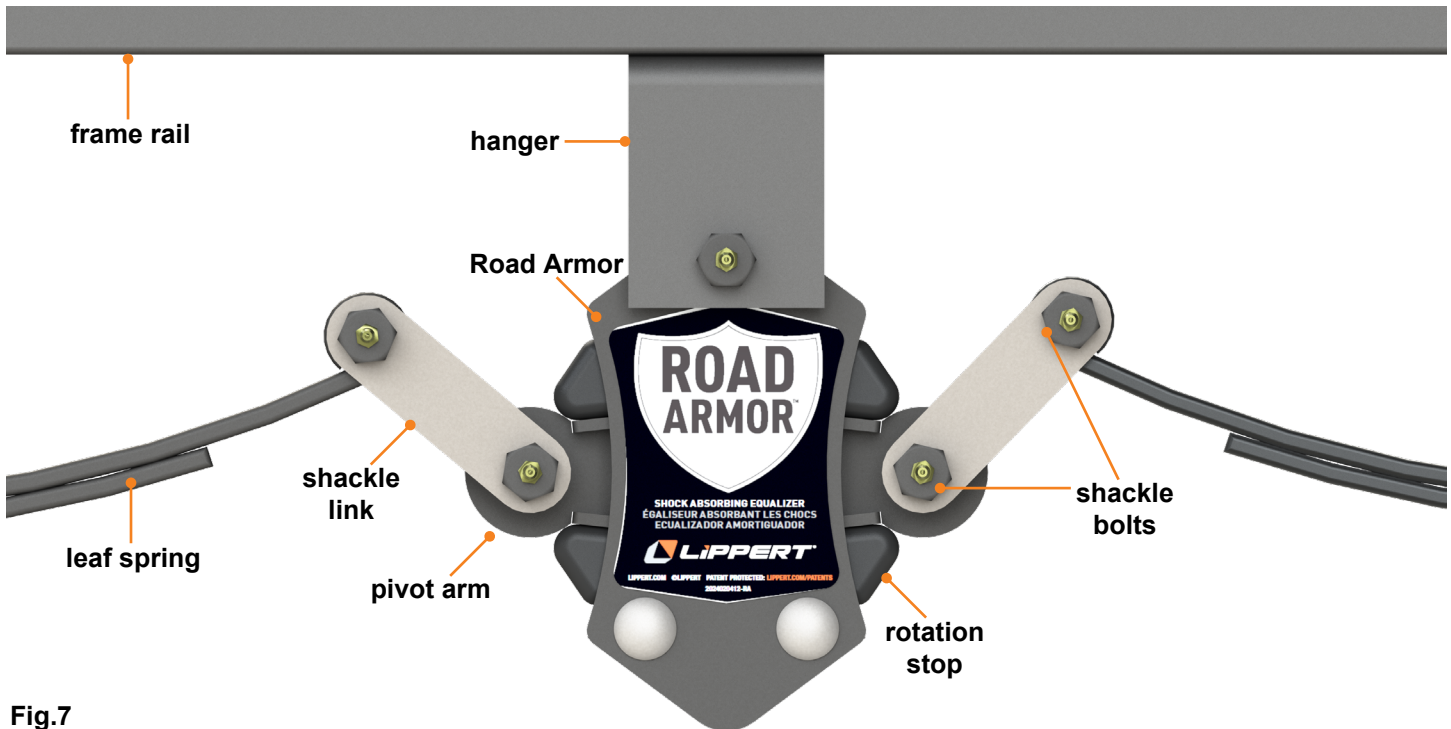

Fig.7
Reference Fig.7 for the following procedural steps:
2. Install the equalizer bolt (**Fig.7**) through the first bracket of the hanger, then through the topmost bronze bushing of the Road Armor equalizer and, finally, through the second bracket of the frame hanger.